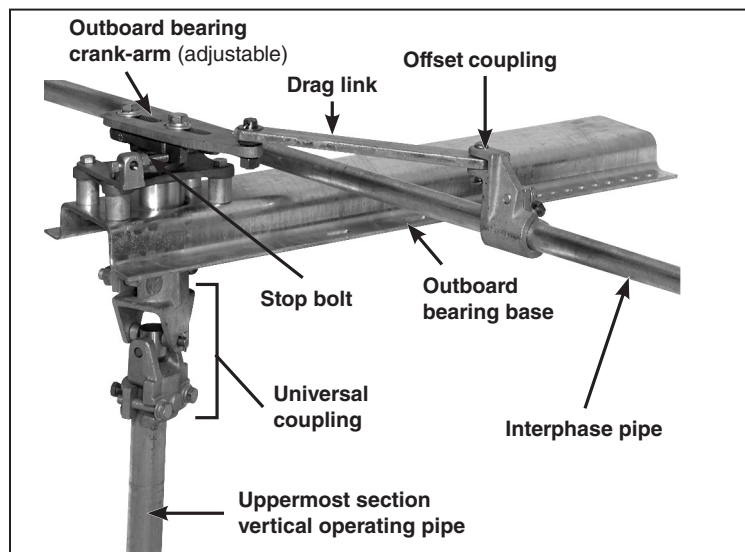

Figure 7. A typical outboard bearing configuration, upright mounted *between* switch poles.
STEP 5. For mounting configurations that use an outboard bearing assembly mounted *between* switch poles, attach one end of the drag link to the crank arm. Attach the specified offset coupling to the other end of the drag link. See Figure 7.